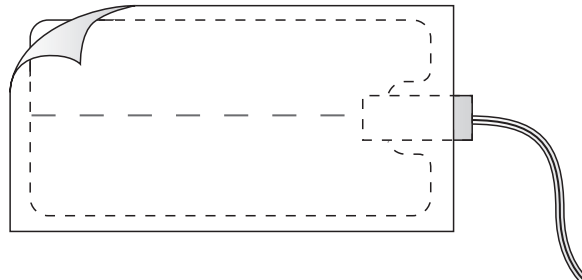

Figure 4-5. Carefully Remove Return Electrode Backing.
2. Slowly remove plastic backing to expose conductive/adhesive area without creasing the return electrode surface (Figure 4-5). Discard the plastic backing.